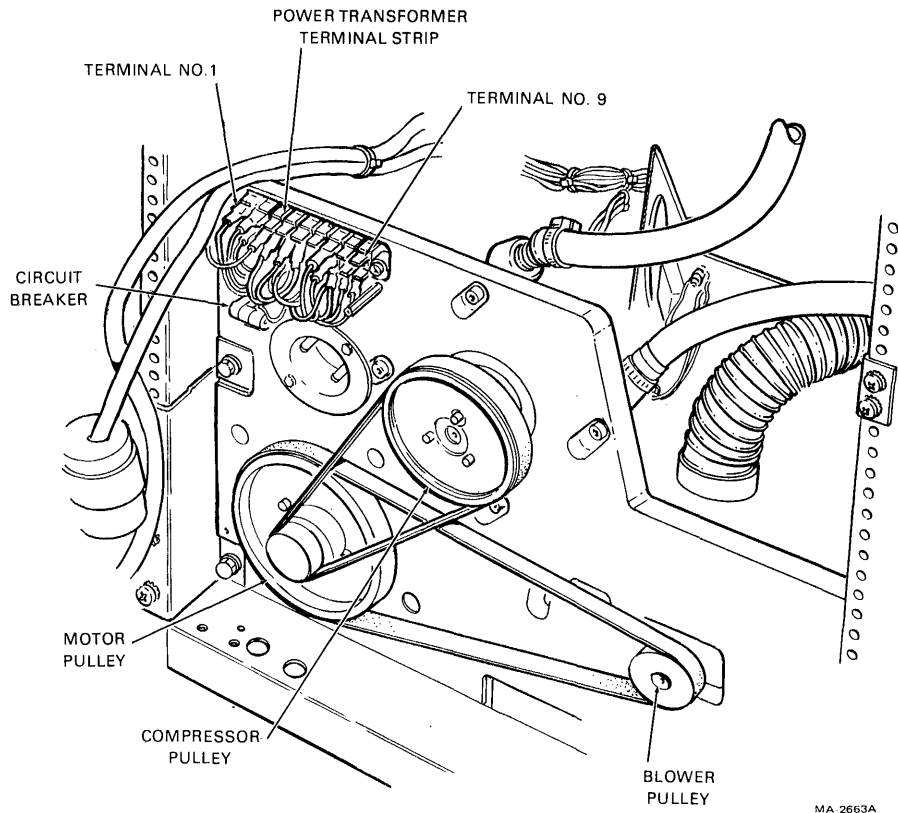

Figure 3-8 Rear of Power Pack with Pulley Cover Removed
4. Remove the cover from the power transformer terminal strip (Figure 3-8). (The ac input plug on power pack must also be removed.) Check that the blue, brown, and white/red wires are connected to the lower terminals (Table 3-1). The terminals are numbered 1 through 9, from left to right. Replace the cover and connect the power pack connector.
6. Remove the pulley cover from the rear of the transport power pack (Figure 3-8). Spin the ac motor pulley by hand and check that the blower and compressor belts are tight and track properly.